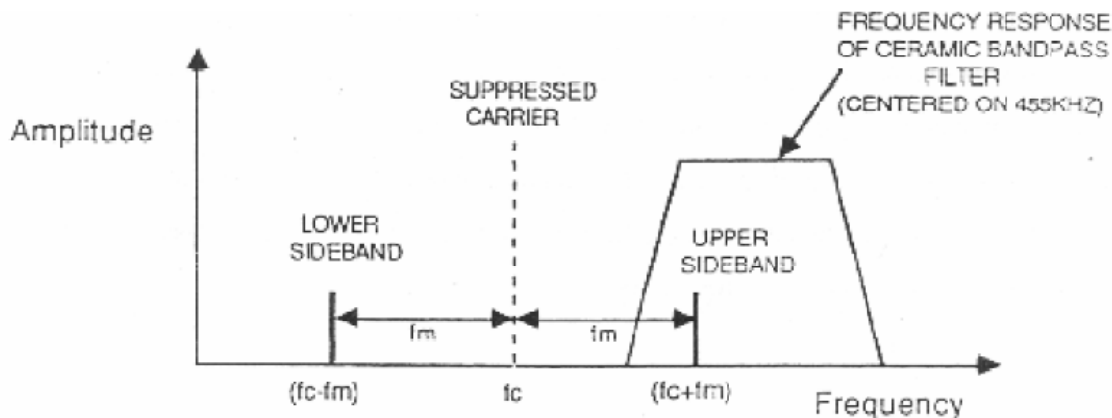

Figure 4: Frequency Response of Ceramic BPF
7. The DSBSC output from the balanced modulator block is next passed on to the ceramic filter block, whose purpose is to pass the upper sideband, but block the lower sideband. We will now investigate how this is achieved. First note that the ceramic band pass filter has a narrow pass band centered around 455 KHz. It was mentioned earlier that the frequency of the carrier input to the balanced modulator block has been arranged to be slightly less than 455 KHz. In fact, the carrier is chosen so that, whatever the modulating frequency  $f_m$ , the upper sideband (at  $f_c + f_m$ ) will fall inside the filter's pass band, while the lower sideband (at  $f_c - f_m$ ) always falls outside. Consequently, the upper sideband will suffer little attenuation, while the lower sideband will be heavily attenuated to such an extent that it can be ignored. This is shown in the frequency spectrum in fig 4.
**10.** Note that there is some variation in the amplitude of the signal at the filter's output (t.p. 20) as the modulating frequency changes. This variation is due to the frequency response of the ceramic band pass filter, and is best explained by considering the spectrum of the filter's input signal at the MIN and MAX positions of the frequency pot, as shown in Fig. 4.